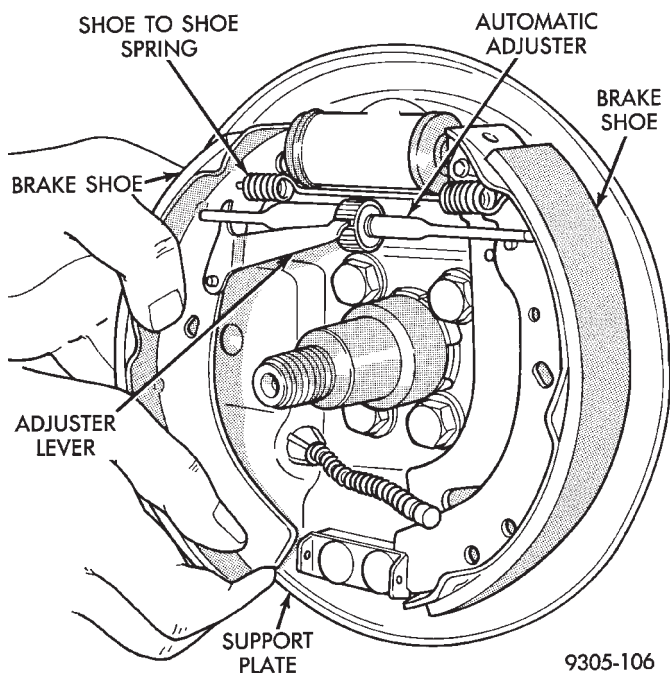

Fig. 11 Remove or Install Brake Shoe Assemblies
(8) Remove brake shoe assemblies, upper shoe to shoe return spring, automatic adjuster and adjuster lever from brake shoe support plate as an assembly (Fig. 11)
(3) Install the pre-assembled brake shoe assembly on the brake support plate (Fig. 11).